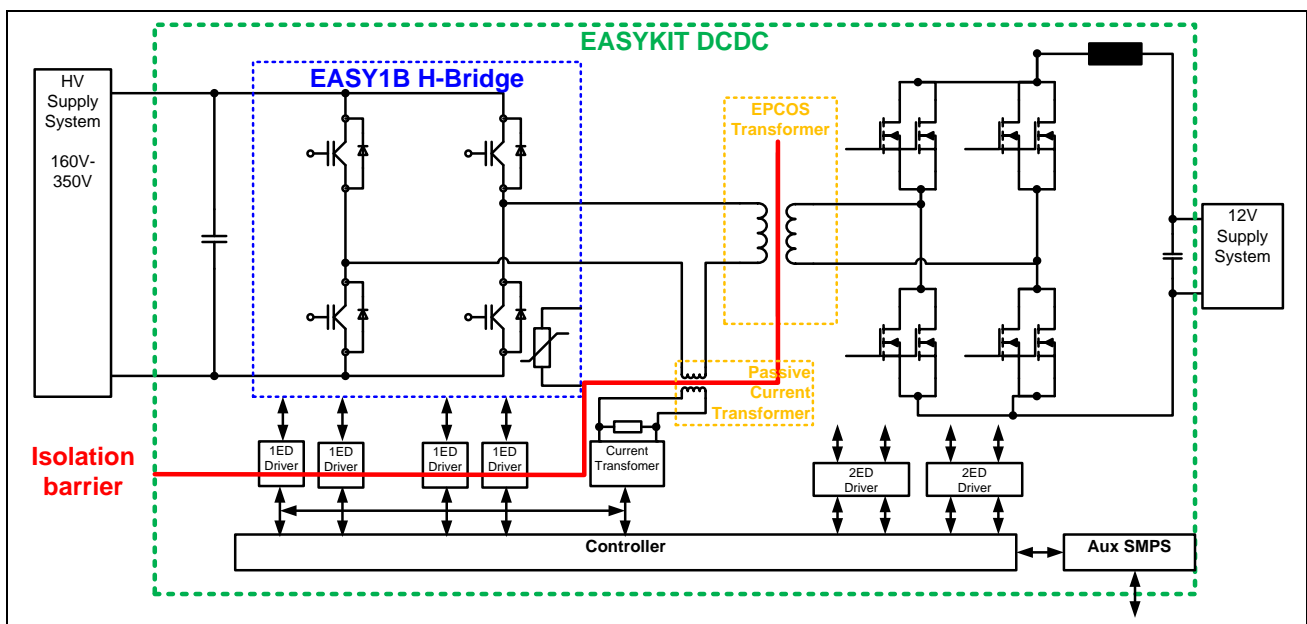

Figure 5 Topology of the EASYKIT DCDC Evaluation Kit.
- Full Bridge Phase Shift Converter with Synchronous Rectification (see Figure 5)